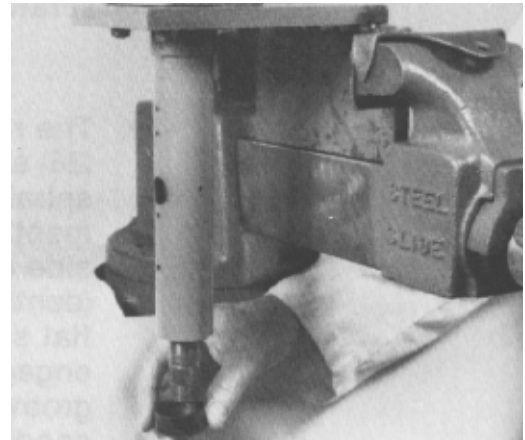

Figure 75
44. Slide the seal from the jacket tube (Fig. 75). If the seal is worn or damaged, it must be replaced.